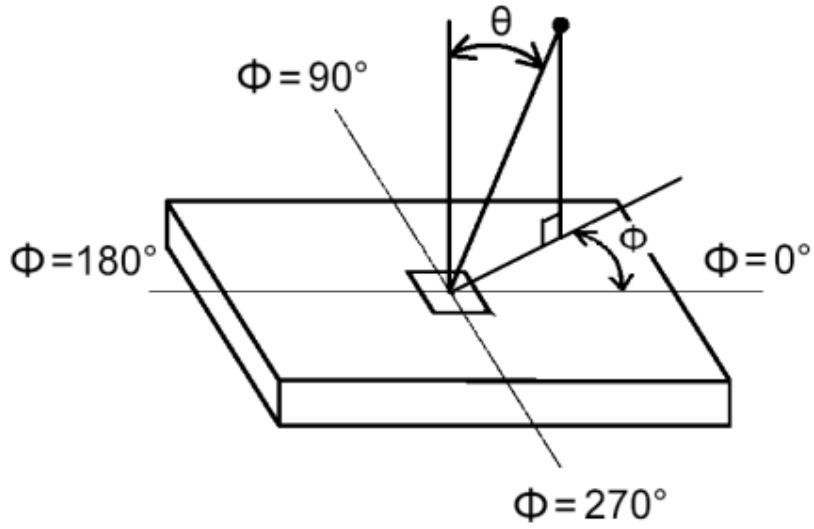

**FIG.3 Response Time**
3. Response time is the time required for the display to transition from to black (Rise Time,  $Tr_R$ ) and from black to white (Decay Time,  $Tr_D$ ). For additional information see FIG3.